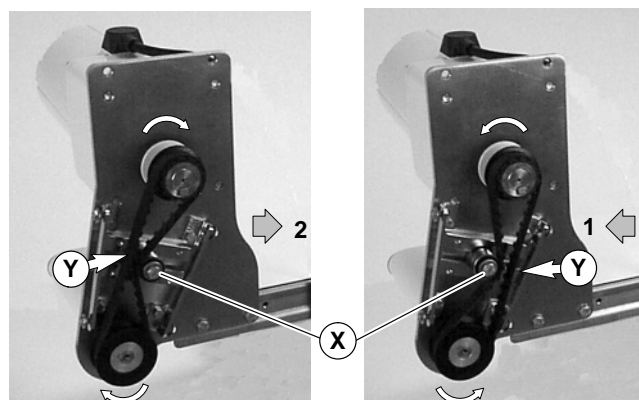

Figure 16
5. Depending on conveyor belt travel (direction 1 or 2), locate timing belt tensioner (X of Figure 16) as shown. Tension timing belt to obtain 0.125" (3 mm) deflection for 1.0 lb (456 grams) of force at timing belt mid-point (Y). Tighten tensioner screw to 92 in-lb (10.4 Nm).